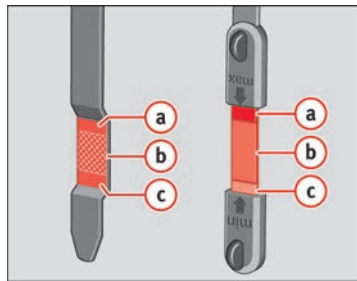

Fig. 170 Markings on oil dipstick
- Then pull it out once more and check the oil level ⇒ fig. 170. If the oil level is too low, add more engine oil ⇒ page 224.